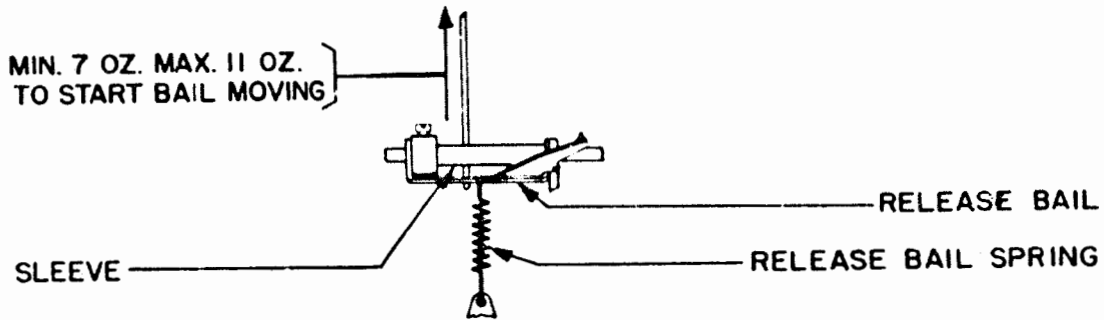

Figure 6
2.12 Release-bail Spring: It should require a tension of minimum 7 ounces, maximum 11 ounces to start the release bail moving from its unoperated position. (See Figure 6.)